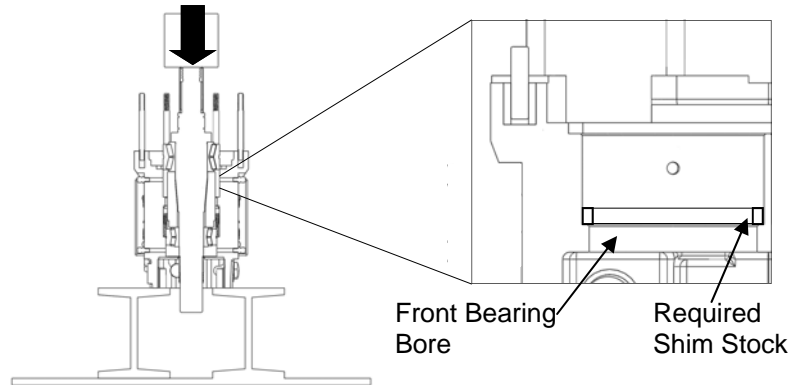

Figure 54: Pressing Shafts into Gear Case
4) Set the gear case on a press with the fluid end side facing up. Place the required thickness of shim stock so it sits on the shoulder of the front shaft bore of gear case. Apply lubricant to the outside of the bearings. Place shaft assembly (one shaft at a time) in the gear case with the rotor end facing up. Making sure that the drive and the short shafts are in the correct bores, press the shafts into the gear case until bearings are fully seated (Figure 54). See Table 6 on page 26 for the required force.